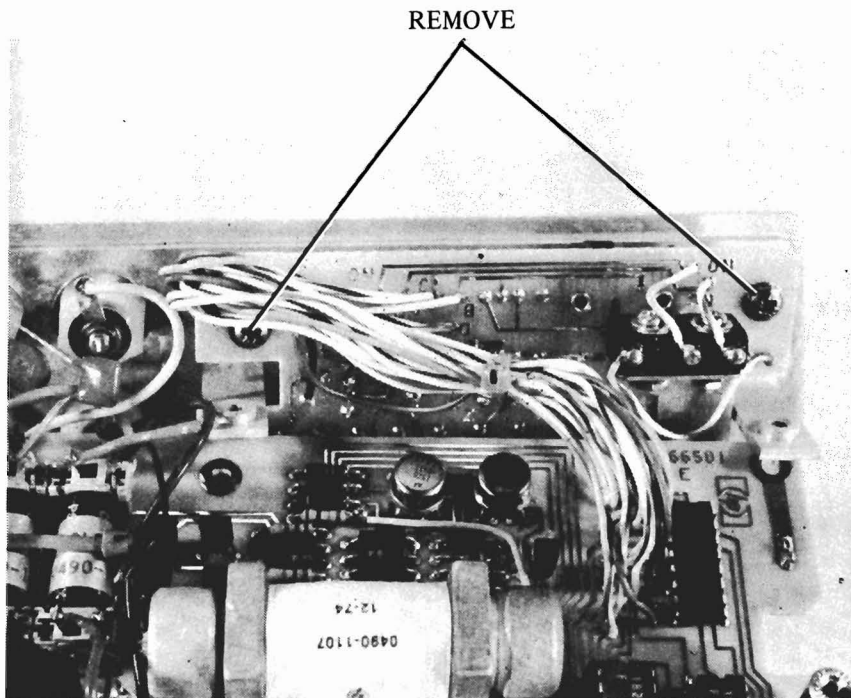

Figure 2.
3. Refer to Figure 2 to locate the two screws that go through the A2 Front Panel Board and screw into the two thin metal posts on the Front Panel Assembly.